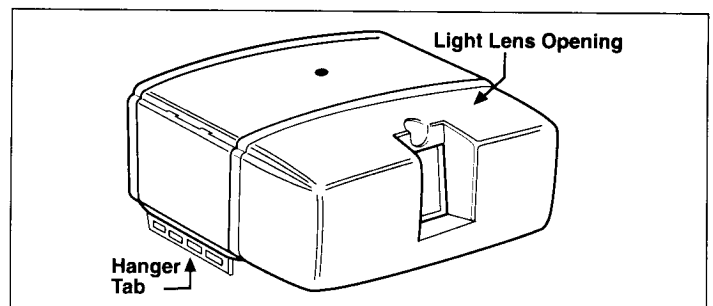

Figure 2
Step 3: Place power unit upside down on a non-abrasive work surface (see Figure 2).